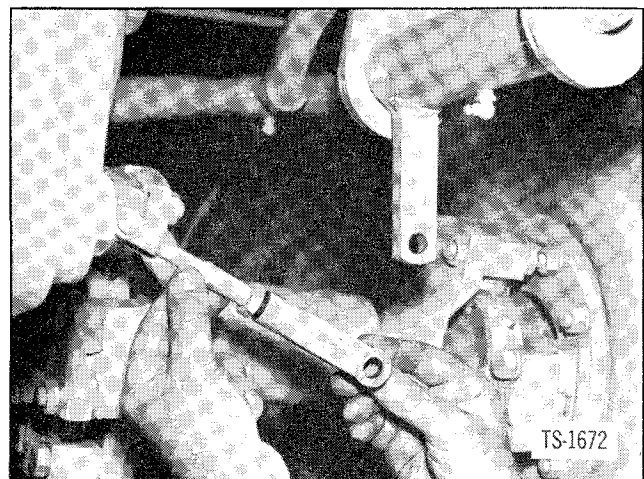

Fig. 27. Adjust Range Shift Lever
1. Loosen locknut on shift shaft at bell crank assembly just forward of transmission on right-hand side of machine. See Figure 27.